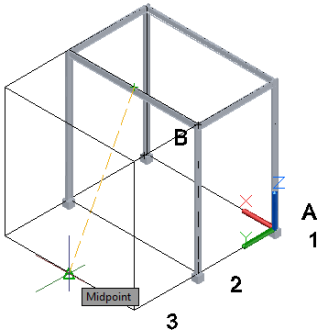
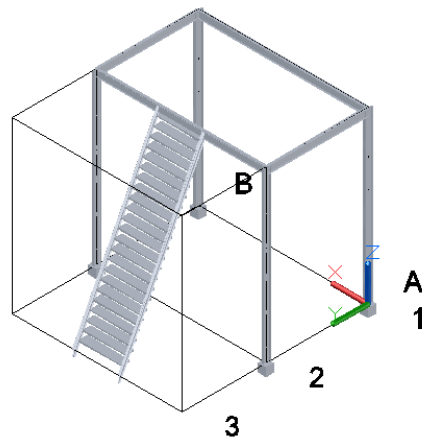

Figure 3-43 Selecting midpoint at the bottom grid line
Figure 3-44 Model after creating stairs
7. Select the midpoint at the bottom grid line, as shown in Figure 3-43; a line is placed between the two specified points. Press ENTER to create the stairs on the specified line, as shown in Figure 3-44.